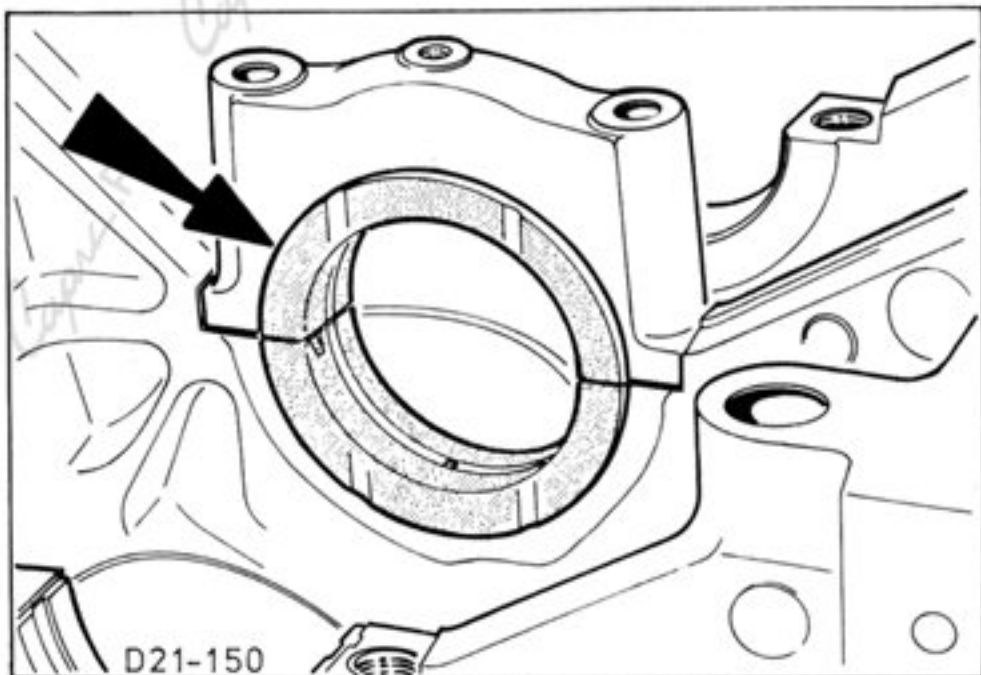
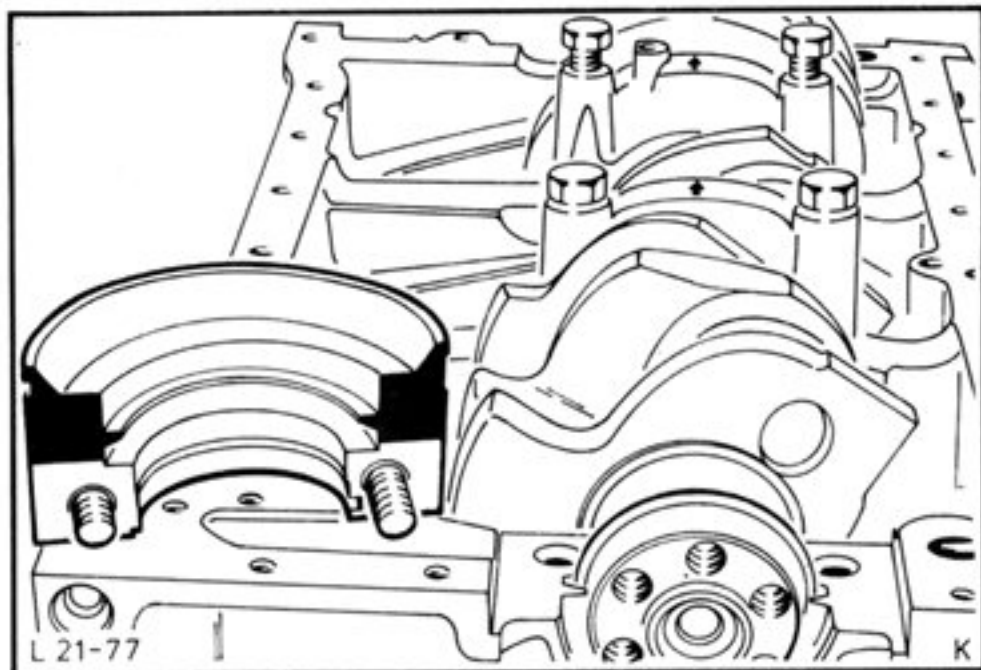

Fig.50. Centre main bearing flanged bearing shells.
Fig.51. Apply sealing compound to rear main bearing cap contact face.
36. Apply thin coat of sealing compound (Part No. A 70SX-19554-BA) to rear main bearing cap on rear part of contact face, Fig.51. Position main bearing caps complete with oiled bearing shells. Ensure flanged bearing shells are fitted to centre main bearing, Fig.50.